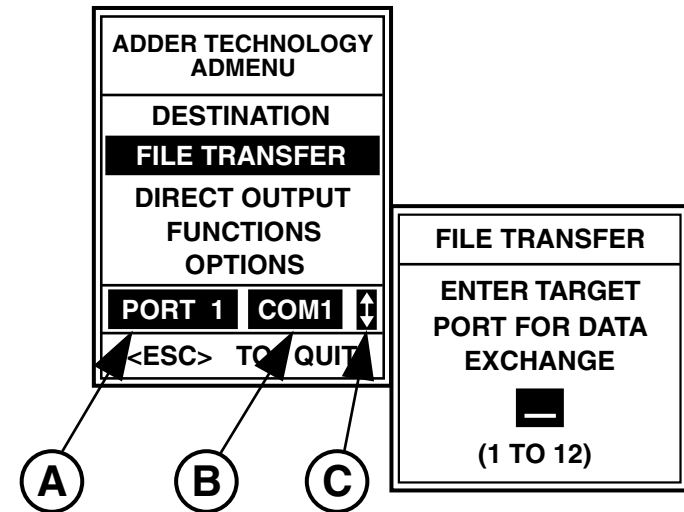

Figure 8-1. Main Menu.
1. Activate the control software on the first PC.) You can activate the control software by using the hotkey combination or by running the program HOTKEY.COM from the DOS prompt or from within a batch file.) Select the File Transfer option on the main menu. Enter the serial port on the Modular Smart Switch that is connected to the second PC. The main menu will be displayed as shown in **Figure 8-1**.